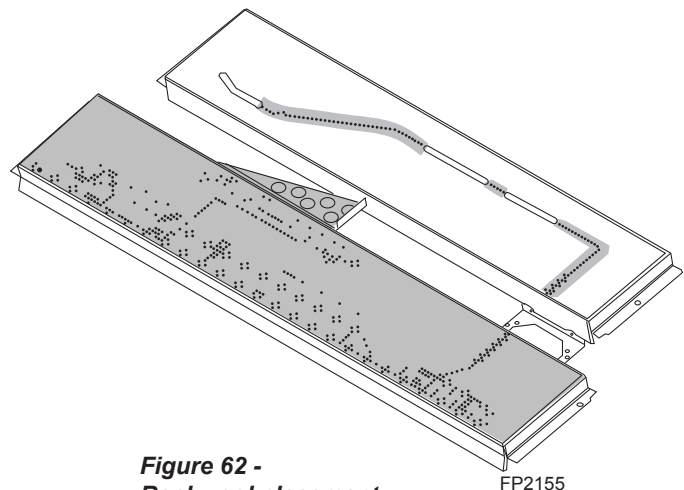

Figure 62 - Rockwool placement
2. Distribute one layer of rock wool to cover the burner. *Figure 62*